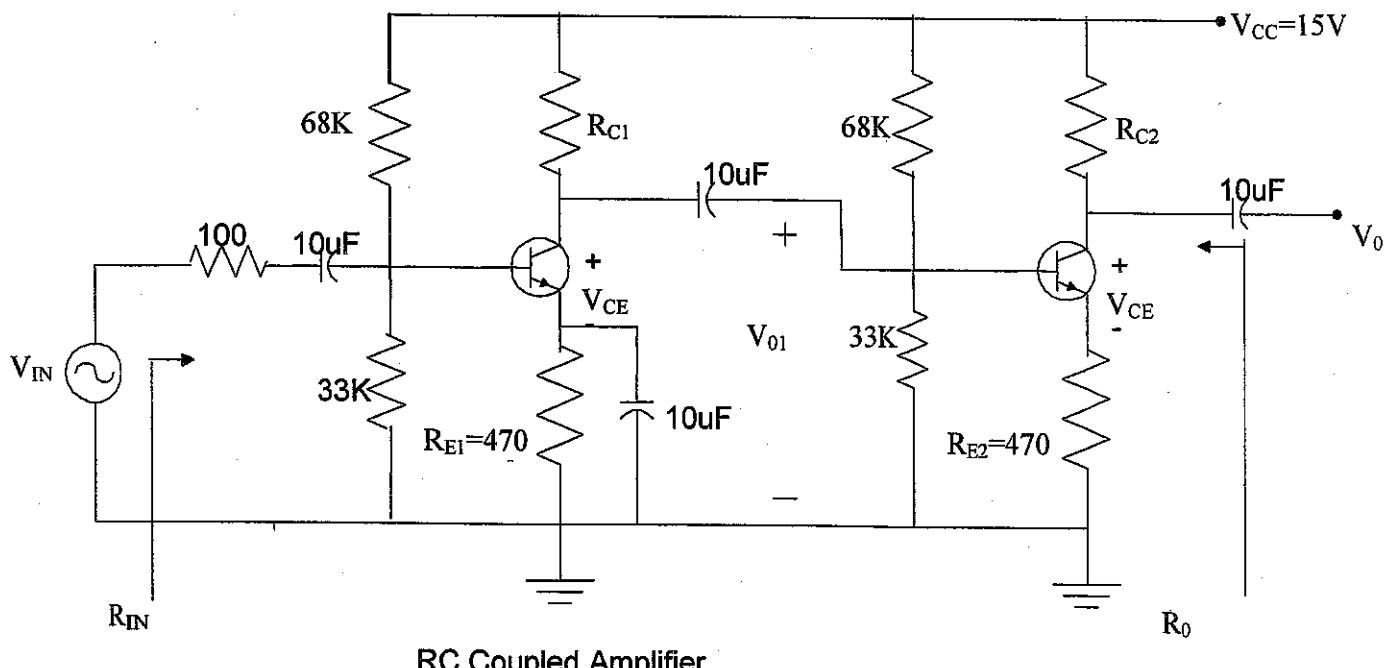

Fig. 1
1. Construct the circuit as shown in fig. 1. Verify that both the transistors are properly biased in the active region.